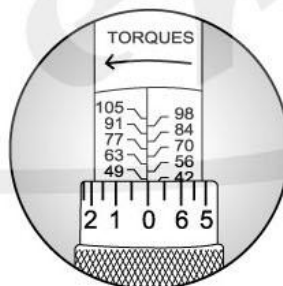

Figure 1 49 Newton Meters
- C. Lock handle securely by turning lock nut (Black round knob) clockwise, and now wrench is set at 55 Newton Meters, which is ready to use. See figure 1 and 2.